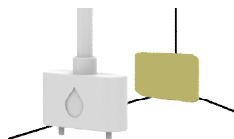

Figure 8
4. In order for the sensor to work, **BOTH** probes must have contact with water. Make sure both probe tips are positioned correctly. Use the included adhesive pad to secure the probe housing to a clean, dry surface. (Figure 8)